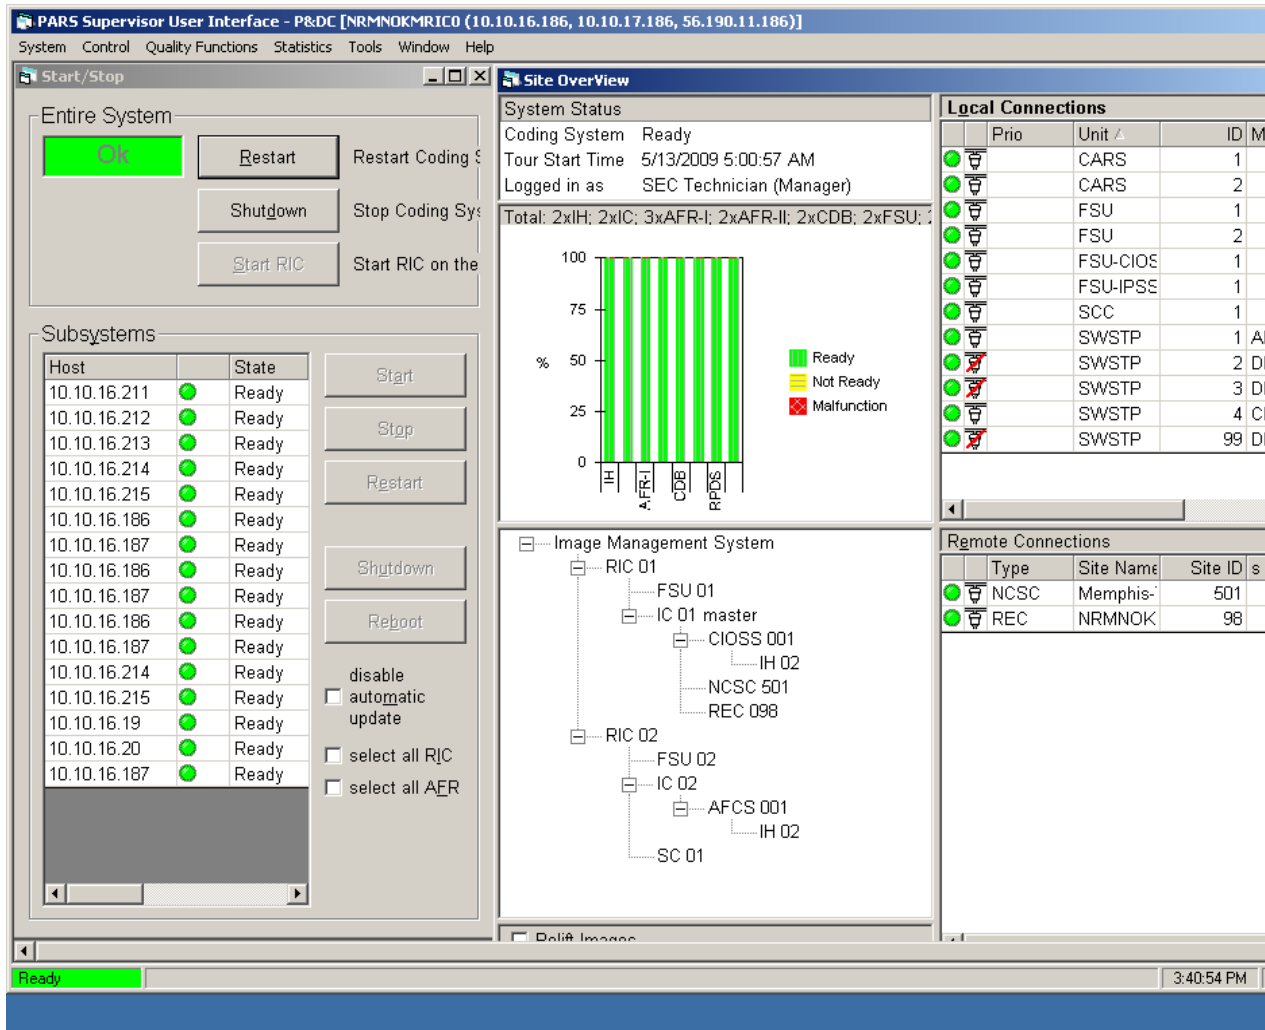

Figure 1a. P&DC RIC/IMS Main Screen
2. Under System menu, click on Start/Stop, the Coding System window should open. See Figure 1a for P&DCs and 1b for REC Sites.
6. From the IMS Control, pull down screen, select Address Dictionaries. See Figure 1a for P&DCs and 1b for REC Sites.